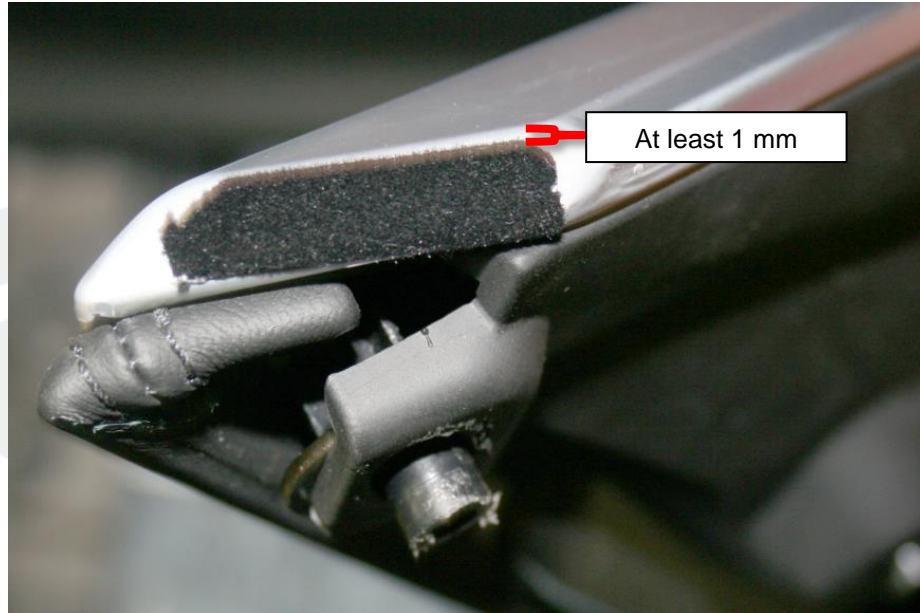

Figure 7
10. Cut a 30 mm strip of felt tape to shape and apply it to the top, front outboard side of the metallic trim on the door trim insert (Figure 7).